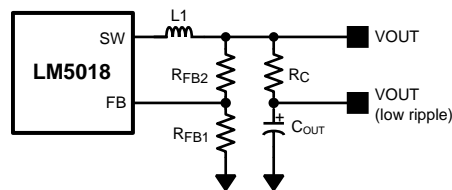

Figure 13. Low Ripple Output Configuration
This regulator regulates the output voltage based on ripple voltage at the feedback input, requiring a minimum amount of ESR for the output capacitor (C_{OUT}). A minimum of 25mV of ripple voltage at the feedback pin (FB) is required for the LM5018. In cases where the capacitor ESR is too small, additional series resistance may be required (R_C in Figure 13 Low Ripple Output Configuration).
For applications where lower output voltage ripple is required the output can be taken directly from a low ESR output capacitor, as shown in Figure 13 Low Ripple Output Configuration. However, R_C slightly degrades the load regulation.